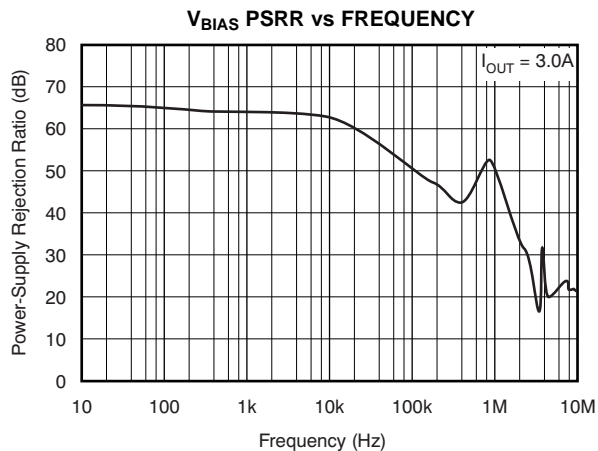
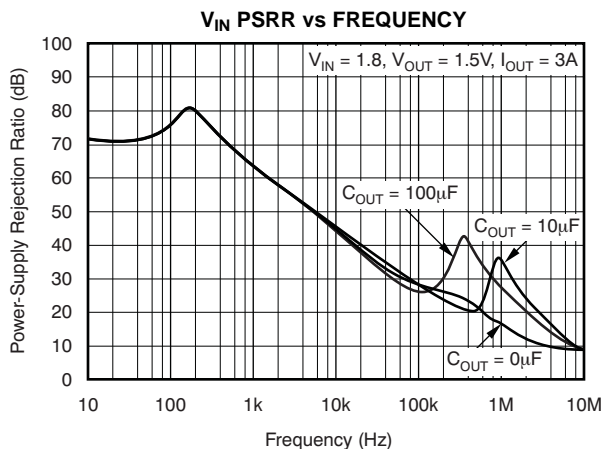

Figure 10.
Figure 13.
- (1) Adjustable devices tested at 0.8V; external resistor tolerance is not taken into account.
- (2) Dropout is defined as the voltage from the input to  $V_{OUT}$  when  $V_{OUT}$  is 2% below nominal.
- (3)  $I_{FB}$  current flow is out of the device.
- (4) See Figure 10 to Figure 13 for PSRR at different conditions.